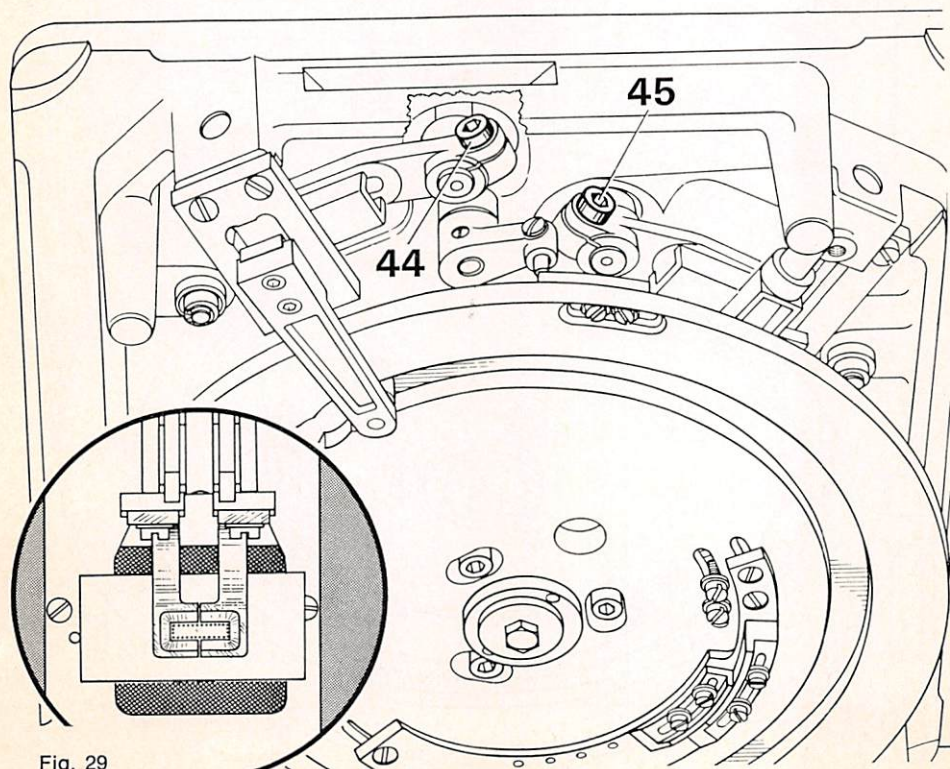

Fig. 29
**29. Centering the tack design in the cutout of the clamp feet (Fig. 29)**